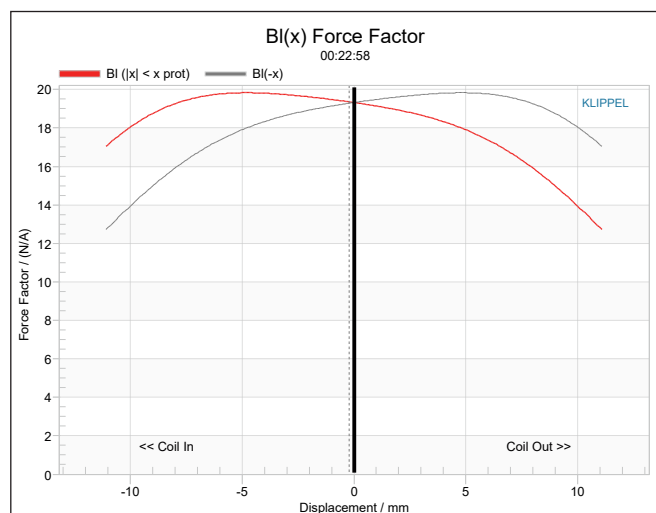
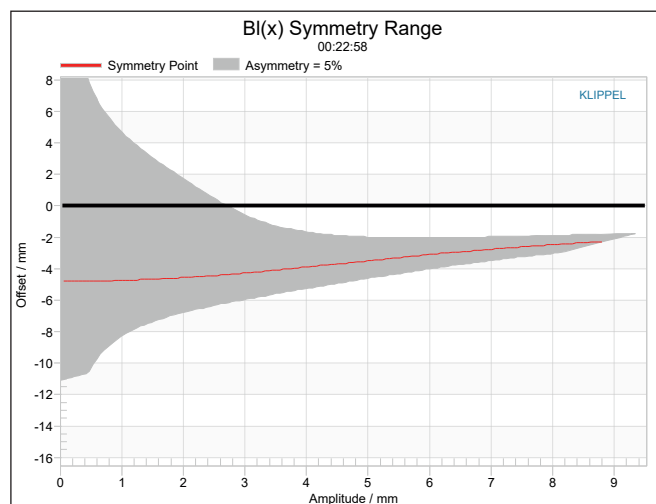

Figure 5: Klippel Analyzer BI(X) curve for the Scan-Speak Ellipticor 38WE/8582T00 woofer
Figure 6: Klippel Analyzer BI Symmetry Range curve for the Scan-Speak Ellipticor 38WE/8582T00 woofer.
The BI(X) curve for the 38WE (Figure 5) is mostly symmetrical with a degree of tilt and coil-in offset, however this is fairly broad BI curve. Looking at the BI Symmetry plot (Figure 6), from an area of reasonable certainty (the